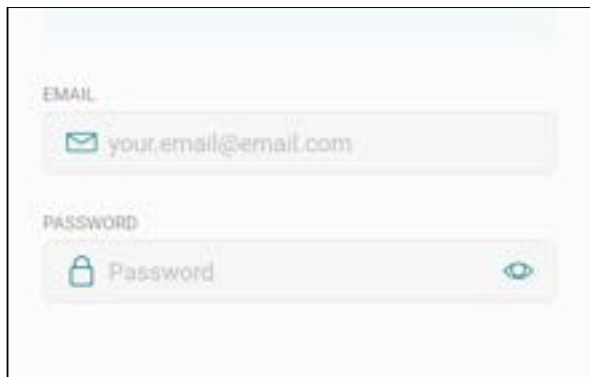

Figure 77. Log in the Raymote Mobile App
3. Open the Raymote mobile app and log in with your user name and password. See **Figure 77**.